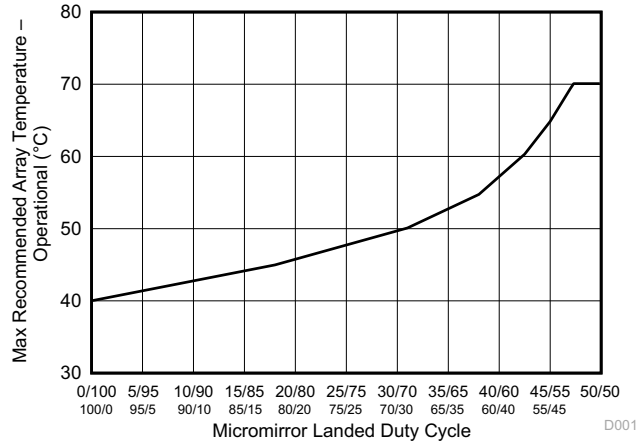

图 6-1. Maximum Recommended Array Temperature - Derating Curve
- (14) Per 图 6-1, the maximum operational array temperature should be derated based on the micromirror landed duty cycle that the DMD experiences in the end application. Refer to § 7.7 for a definition of micromirror landed duty cycle.
- (15) Long-term is defined as the usable life of the device
- (16) Short-term is the total cumulative time over the useful life of the device.